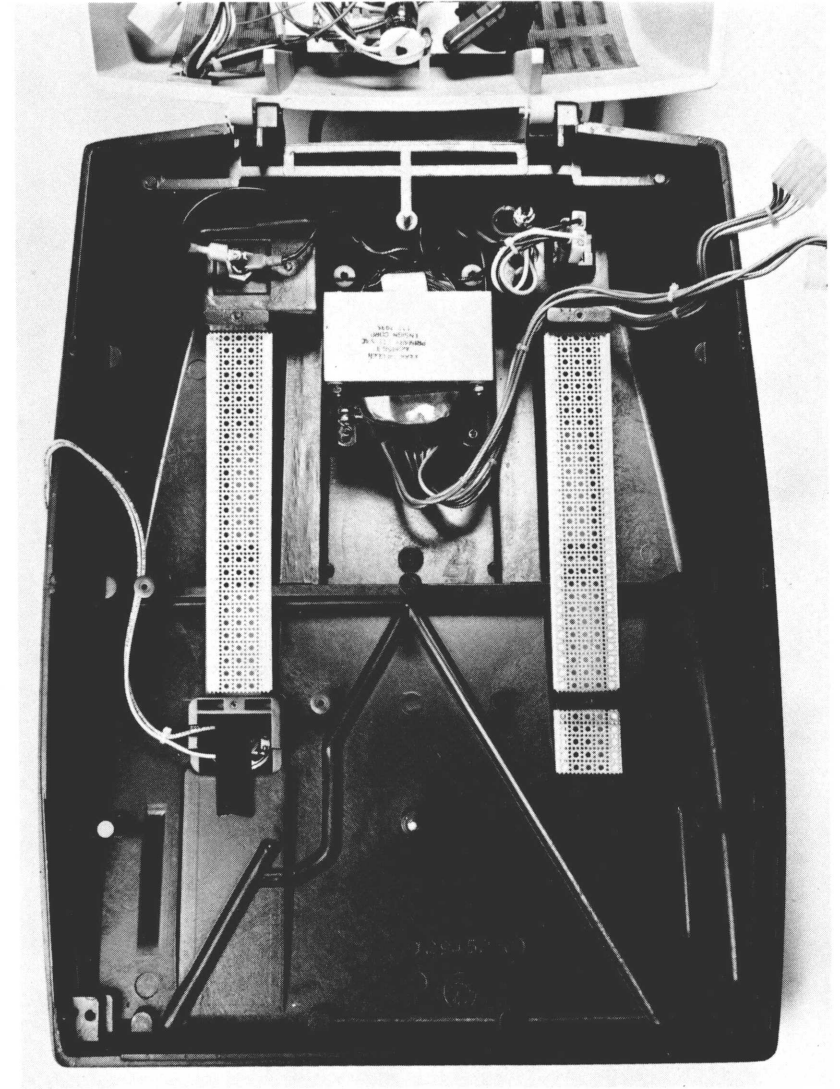
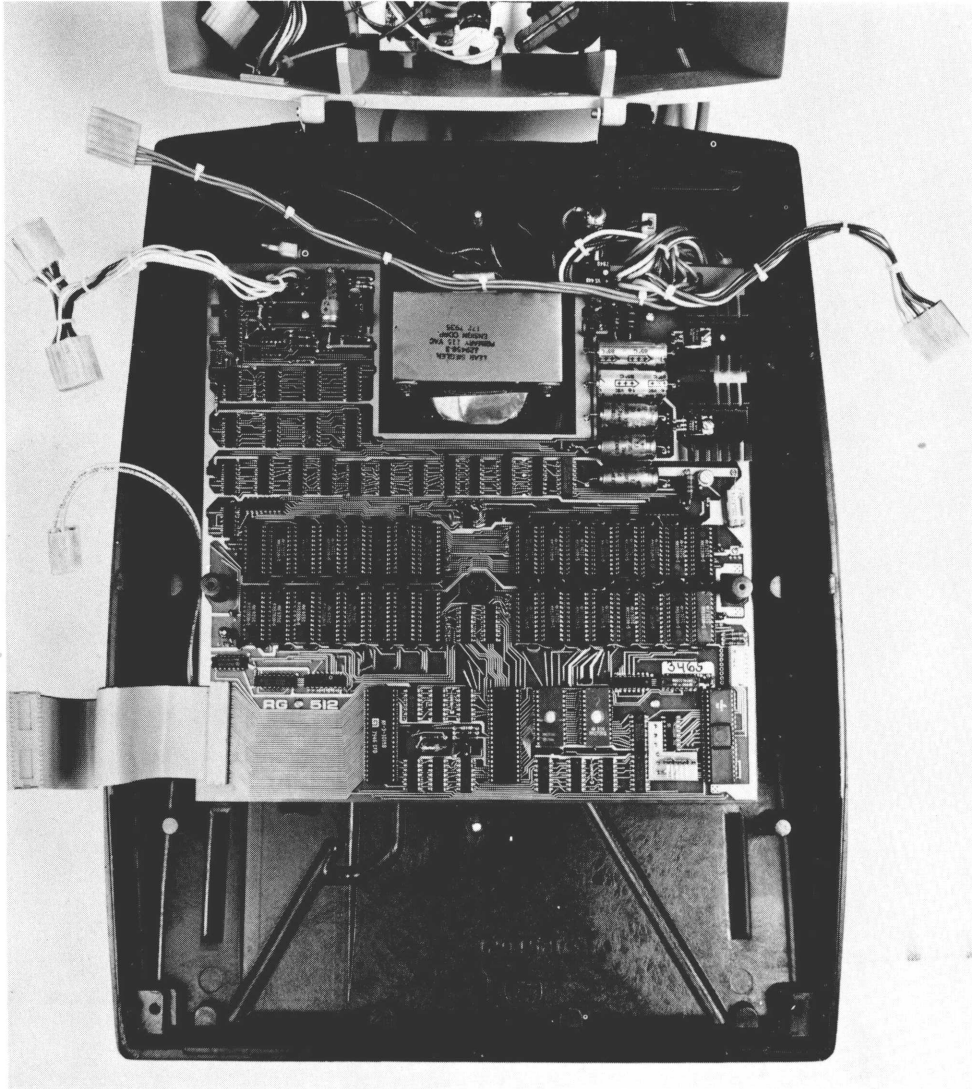

Figure 3-2
Figure 3-3
3. Route both transformer cables exactly as shown in Figure 3-2. Be sure the beeper wires are seated in the two slots provided near the speaker and that the cable is lain over the left side of the case as shown in Figure 3-2. Lay the Retro-Graphics card in the base of the ADM-3A enclosure so that it rests on the baffle plate mounting surfaces (see Figure 3-3). Mount it with the four mounting screws. Do not over-tighten.